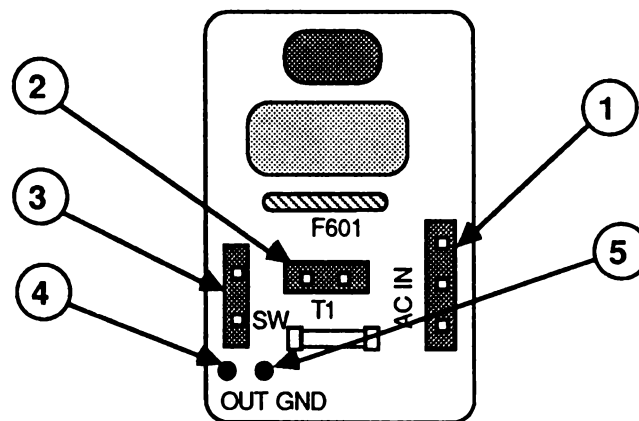

**FIGURE 6**
15. On the line filter board, locate the solder point (Figure 6, #4) next to the green ground wire at the marking "OUT GND" (Figure 6, #5), and desolder if there is solder present.
16. Solder the green AC IN ground wire that you just clipped to the filter board at the solder point (Figure 6, #4) next to the green ground wire (Figure 6, #5) at the marking "OUT GND."
- AC IN (Figure 6, #1)
- T1 (Figure 6, #2)
- SW (Figure 6, #3)